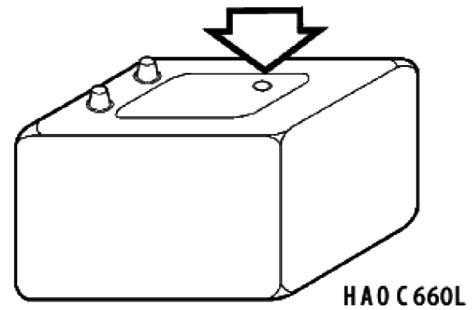

Fig 8
6. If the specific weight of electrolytes level of the battery drops to be less than 1.18kg/L, you should immediately charge the battery to prevent the acidulation of the pole plate. After first charging of the newly used battery, it is better to discharge the battery at a rate of 10 hours discharge rate, then continue the charge to make the battery fully play its role and output adequate capacity. So far as 2506-1104 battery used in this machine, you should judge the status of the battery regularly according to the gravimeter color, as shown in Fig.8:
The battery installed in this machined is the one without needing maintenance, and you need not add electrolyte into the battery. When the charge indicator is transparent, it indicates that the electrolyte is less, and the possible reason is leakage or the faults in charging system. Immediately perform the troubleshooting and replace the fault battery. (Fig.8)